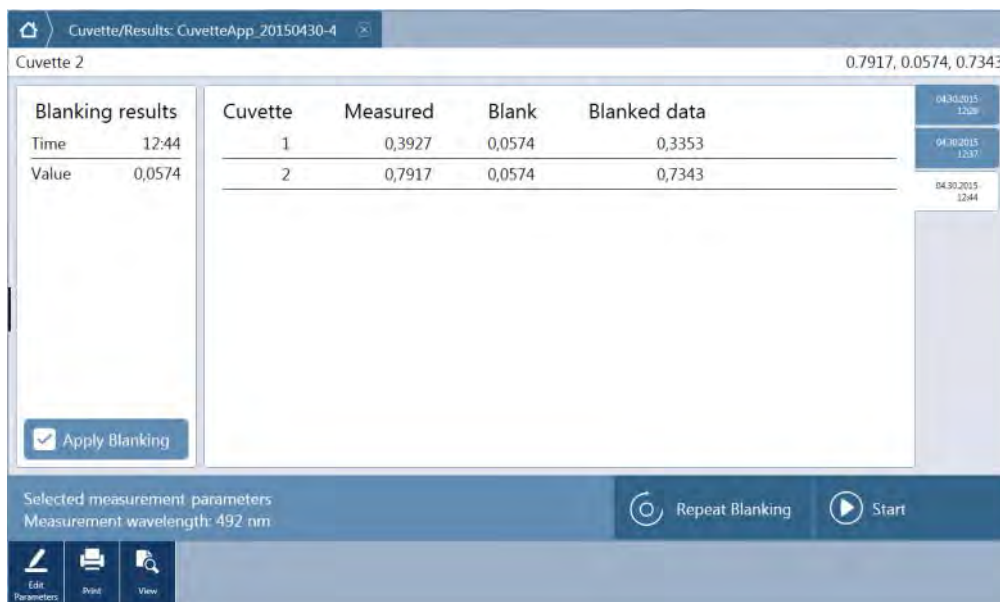

Figure 119: Result window with multiple result sheets
- If needed, repeat blanking during the current measurement session via **Repeat blanking**. The old blanking value is discarded and the new blanking value is valid for all the following measurement. For each repetition, a new result sheet is generated indicated by the tabs placed on the right side of the Result window (Figure 119: Result window with multiple result sheets). Each tab is provided with the date and time of the respective blanking readout.